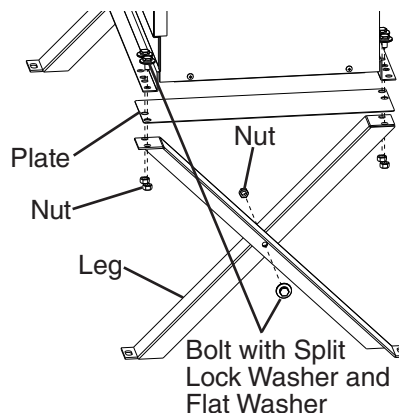

Fig. 7
- 1) Assemble 2 sets of legs using the legs, bolts, and nuts provided. See Fig. 7.